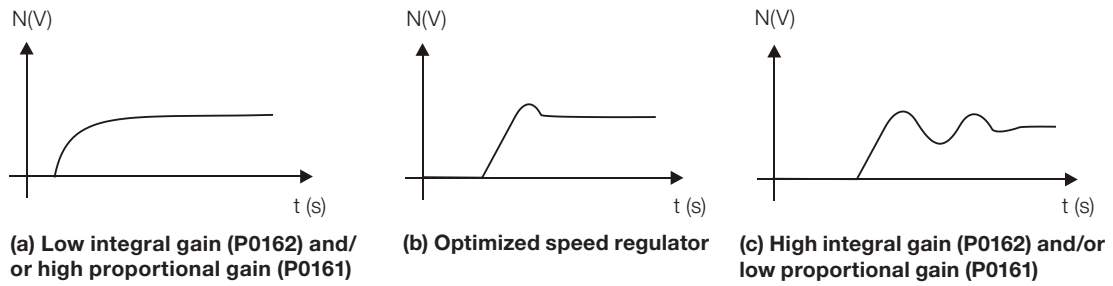

Figure 11.3: (a) to (c) Speed regulators response types
6. Verify among the options of the Figure 11.3 on page 11-13, which waveform best represents the observed signal.
7. Adjust P0161 and P0162 according to the response type presented in the Figure 11.3 on page 11-13.